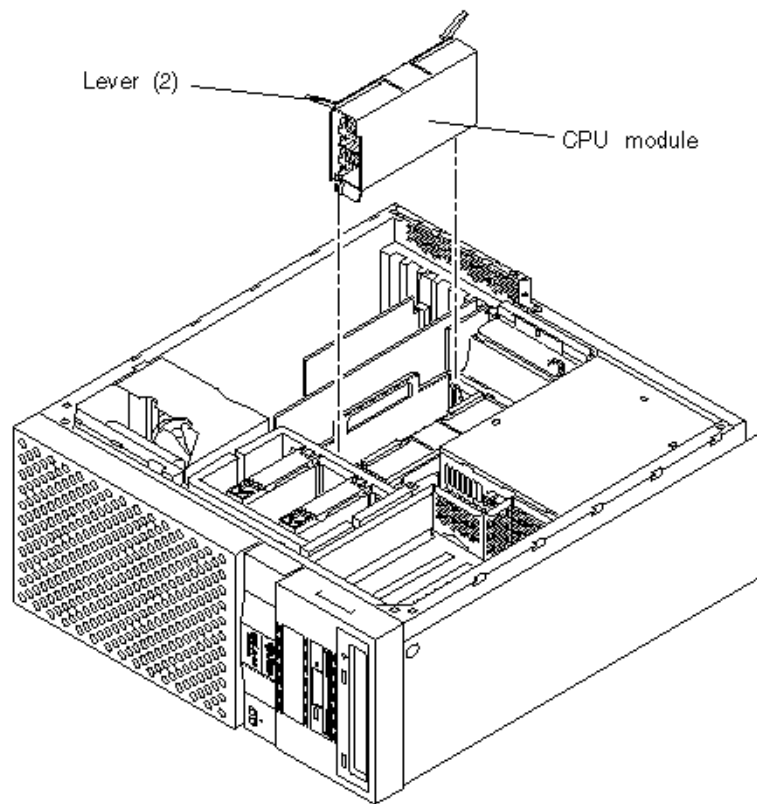

Figure 10-1 Removing and Replacing the CPU Module
4. **Remove the CPU module as follows (Figure 10-1):**
1. Replace the CPU module as follows (Figure 10-1):